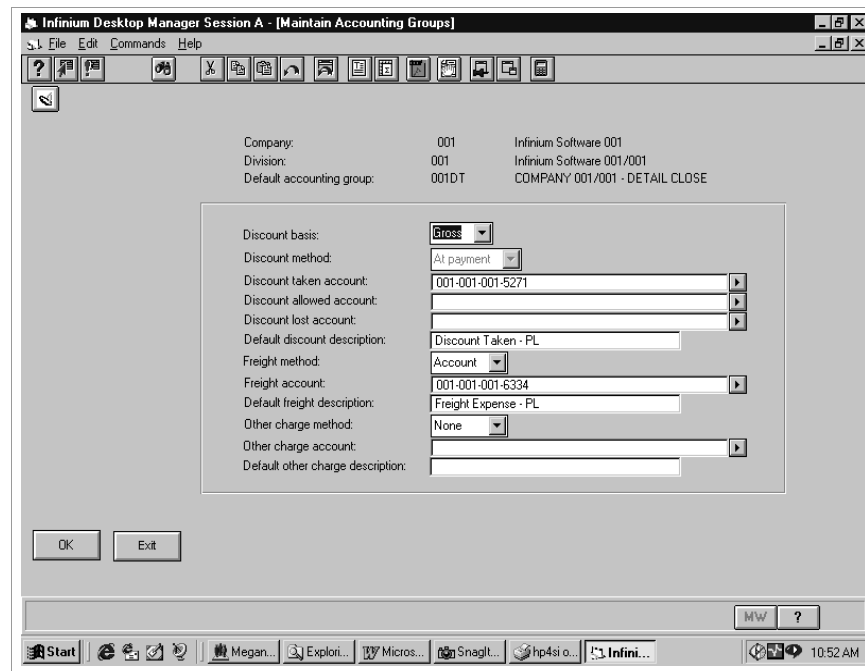

Figure 3-13: Maintain Accounting Groups: Discount and Freight Data
- 4 Press Enter. The system displays a screen similar to Figure 3-13.